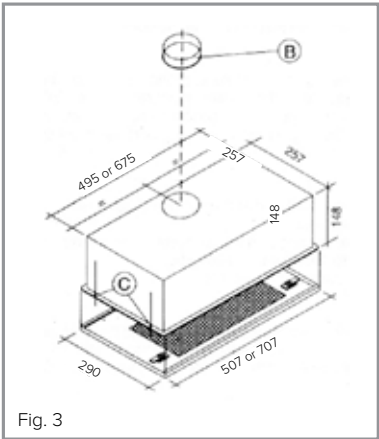

Fig. 3
2. Hold the extractor in the housing and secure to the canopy using 4 wood screws, located in the corner of the extractor, as shown as C in figure 3. We recommend that you seek the help of another individual when carrying out this task.